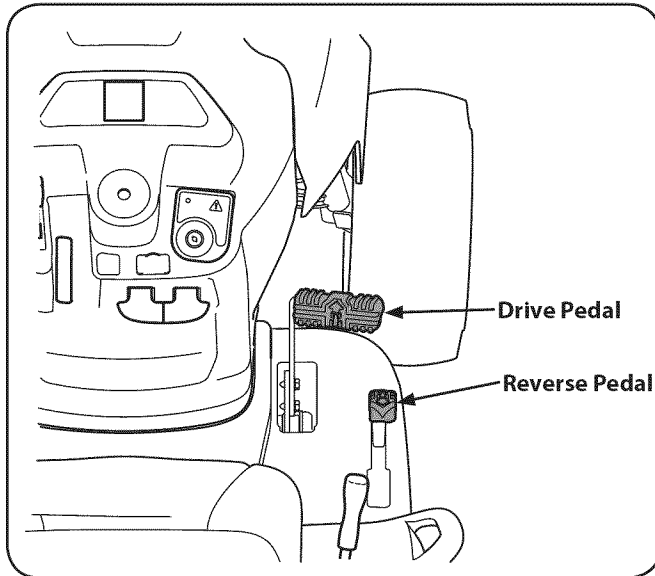

Figure 5-1
2. To travel FORWARD, slowly press the upper portion of the drive pedal forward until the desired speed is achieved. See Fig. 5-1.
3. To travel in REVERSE, check that the area behind is clear then slowly depress the lower portion of the drive pedal with the ball of your foot (NOT your heel) until the desired speed is achieved. See Fig. 5-1.